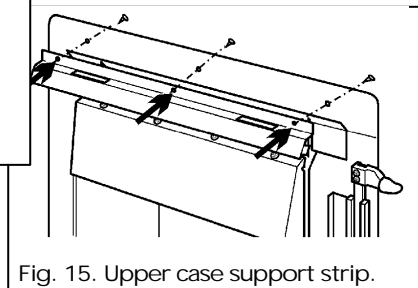

Fig. 15. Upper case support strip.
6.7 Fit the upper case support strip to the top of the convection box, using three screws inserted from the back of the appliance. (See figure 15).